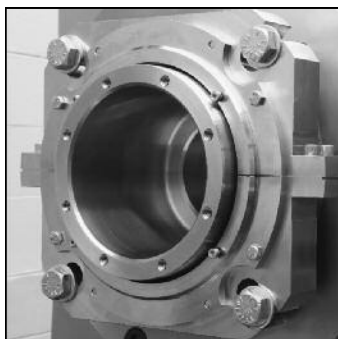

Figure 27
- NOTE:** The completed seal installation should look like Figure 27.